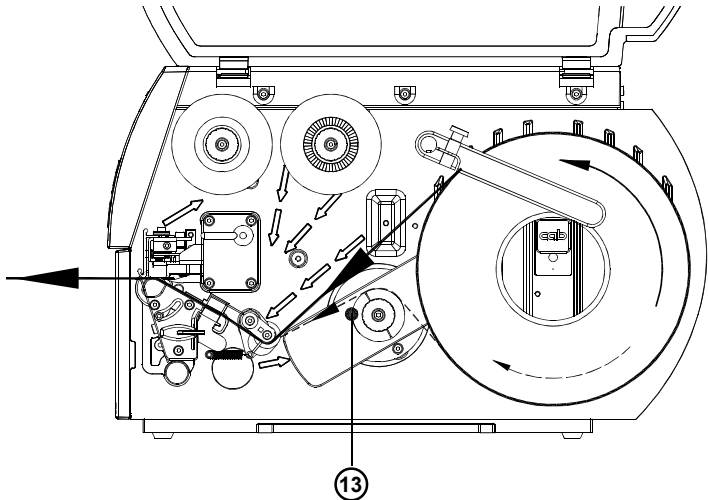

Fig. 7d Feed path in Tear-off Mode
3. Place the media roll (8) onto the media hub (9) and unwind a strip of media (4) from the roll. When operating in the rewind or peel-off mode make sure that the strip is long enough to reach the internal rewriter by guiding the strip through the whole print mechanism and underneath of it. Make sure that the labels between the media hub and the print mechanism are facing up. Slide the roll onto the media hub (9) until it stops.
4. Swing the media retainer (11) downwards until it touches the media hub (9). Push the media retainer against the supply role until it rests against the label media. Tighten the knurled screw (10).
5. Raise the printhead assembly (2) by rotating the lever (7) clockwise until it stops.
6. Slide the media guide ring (6) outward, allowing enough clearance for the label stock's width when loaded.
7. Slide the media strip underneath the swing (5 /A3-2 and A3: axle) and through the adjustable photocell assembly (3) until it comes out of the front of the printer. If you are using labels that are wound-in, please make sure that you slide the media strip over the internal rewind hub (13). In figure 7d the feed path for labels wound-out is represented by a solid line, and the feed path for wound-in labels is represented by a broken line.